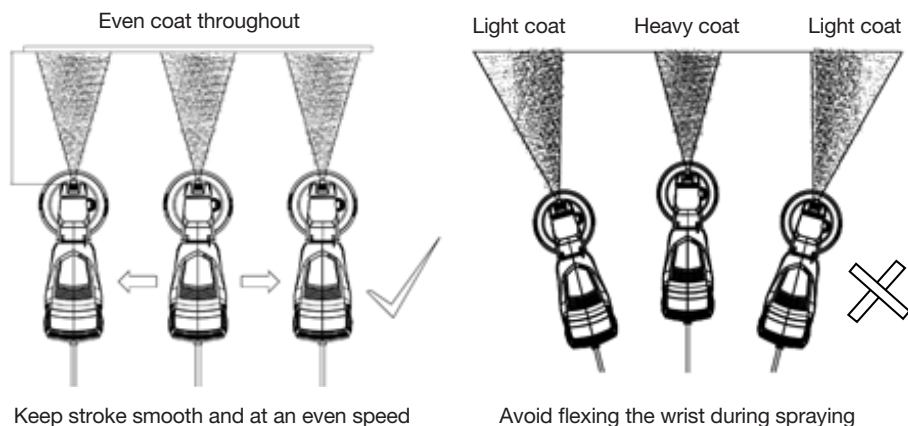

Fig. 9
- 10b) Move the gun parallel to the surface using smooth, consistent passes, as illustrated below Fig. 9. This technique helps prevent common finish defects such as runs and sags.